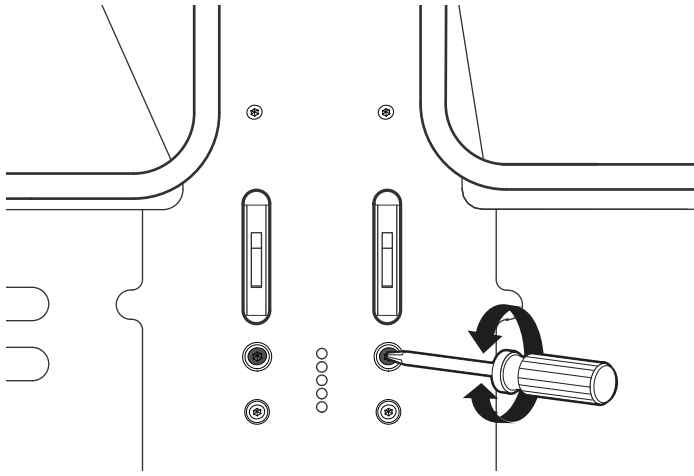

Figure 26: Hinge Receiver Adjustment Screw
- If door or handle appears slightly tilted, you may adjust the hinge receiver by rotating the large Torx-head screw located directly below the hinge receiver with a T-20 Torx driver. Rotate each screw respectively to its side and direction the door needs to be adjusted (Figure 26).